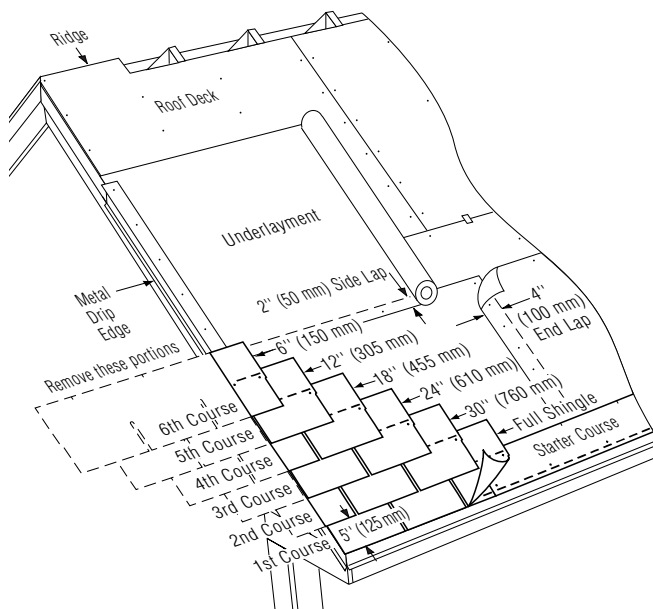

Figure 12-8: Applying the first 6 courses on a standard slope.
1ST COURSE: Apply a full shingle at the lower left corner of the roof. Make tabs lie flush with the edges of the starter course. In this way, sealant on the starter strip will adhere to the first-course tabs and help keep them from lifting in high winds (Figure 12-8).
1. Cut 6" off the left side of a shingle and install this 30" piece over and above the first-course shingle, in line with the left edge of the starter course. Leave the 5" tabs of the first-course shingle exposed (*Figure 12-8*).
2. Cut 12" off the first shingle of the third course, 18" off the first shingle of the fourth course, 24" off the first shingle on the fifth course, and 30" off the first shingle of the sixth course. Apply each with its left edge in line with the previous course (*Figure 12-8*).